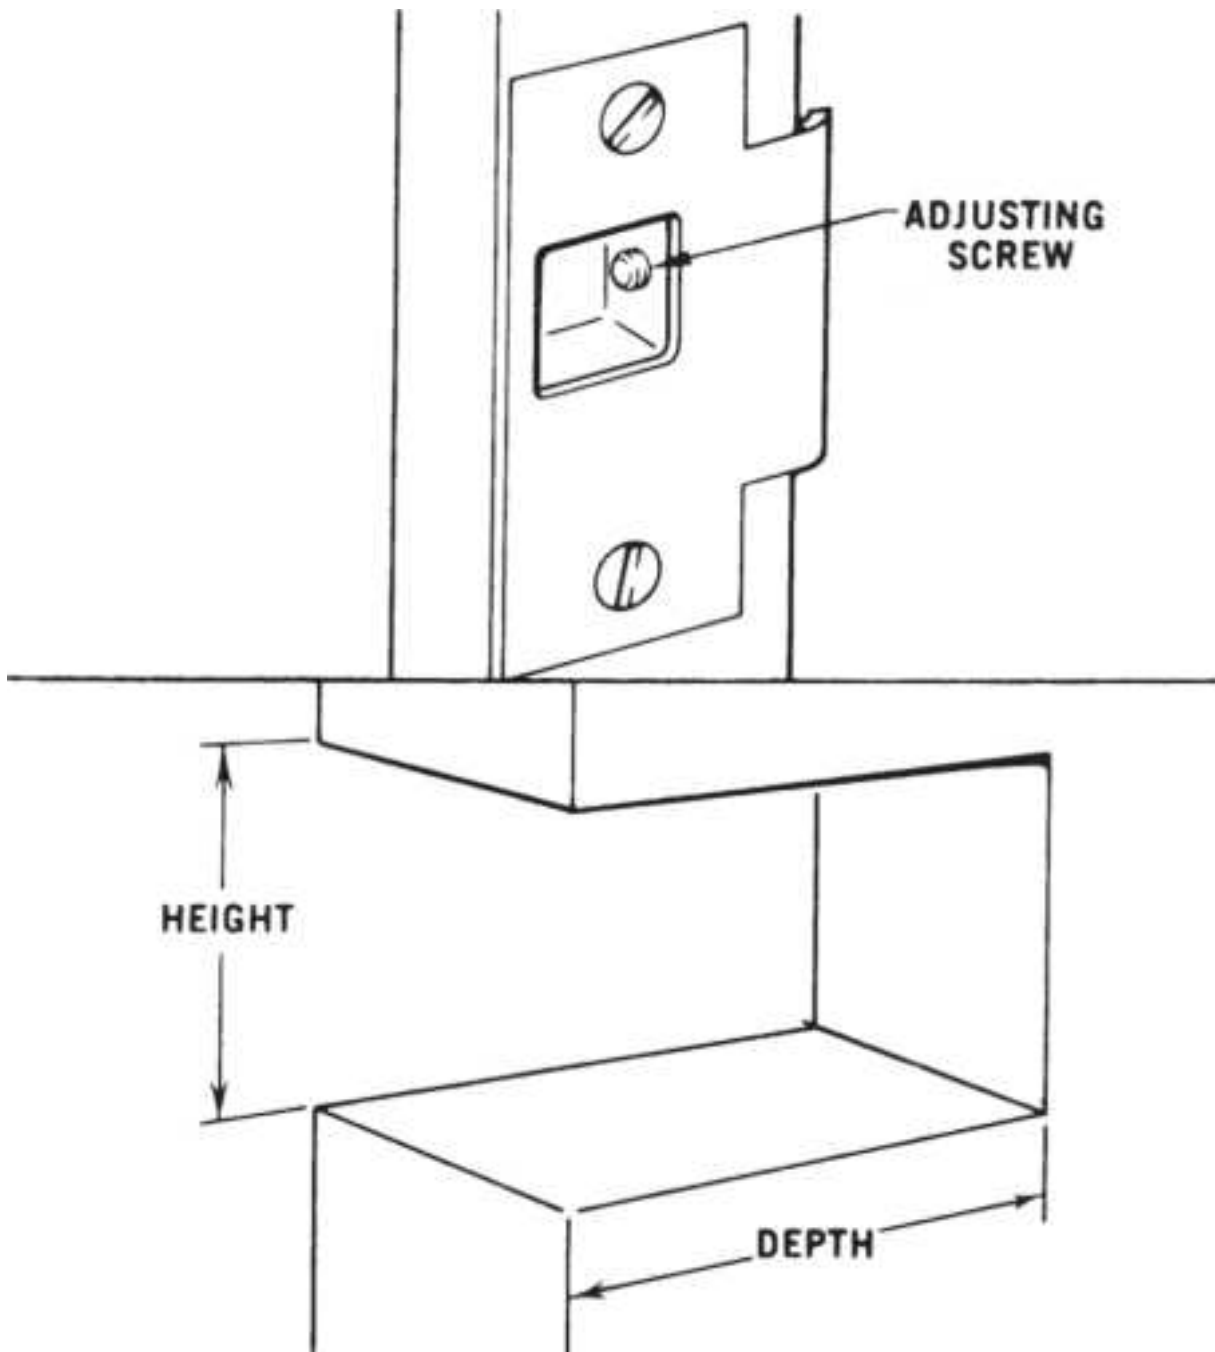

**Figure 13.21** Adjusting screw in strike.
***Problem 1: Latchbolt binds or rattles in strike.*** Adjust the strike. Because the lockset is preassembled as one unit, there are no internal adjustments to make. Check that the cutout for the lockset is square and at the right depth so the face of the lockset is flush with the face of the door. Then, adjust the nylon adjusting screw in the strike (Fig. 13.21 ).